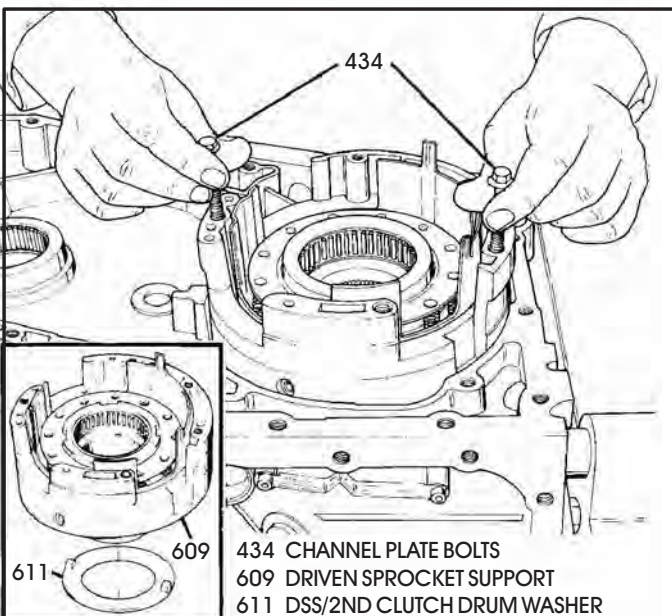

Figure 66
44. Using two of the channel plate bolts or two of the pump bolts, remove the driven sprocket support, as shown in Figure 66.